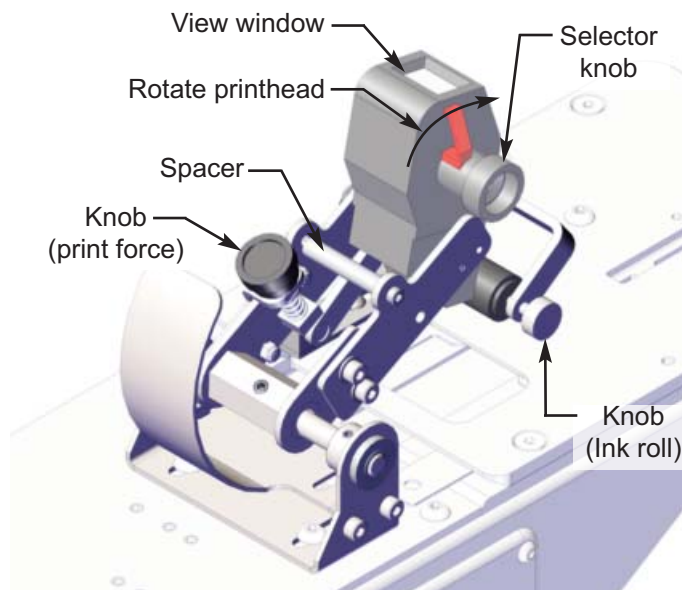

Figure 2.2
D. ADJUSTING THE PRINT FORCE: Figure 2.2 & 2.3